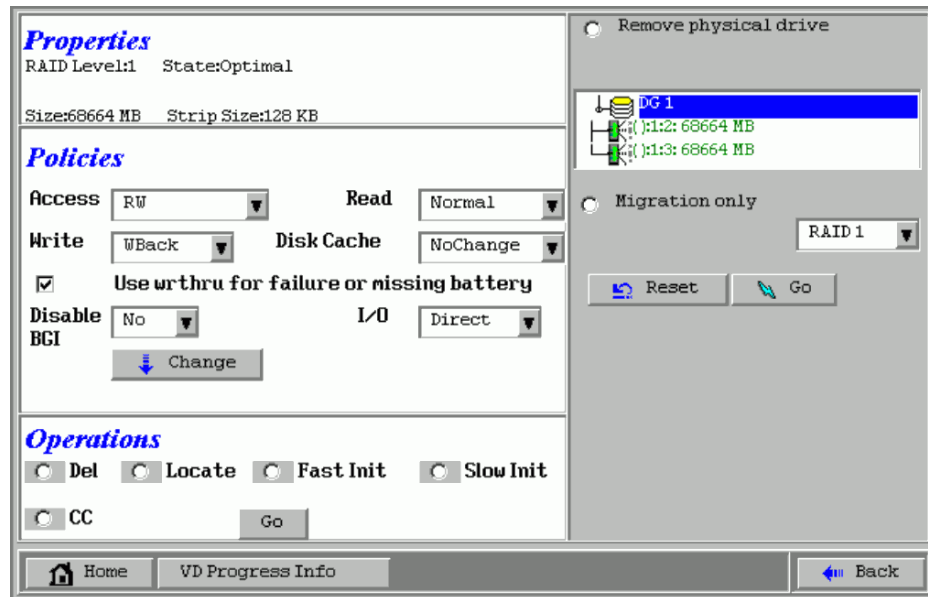

Figure 3-61 Virtual disk Properties, Policies, and Operations panels
3. Click **Go**. The properties, policies, and operations are displayed, as shown in Figure 3-61.
**Note:** To watch states of any ongoing background process, click the **VD Progress Info** button shown in Figure 3-61 on page 169.